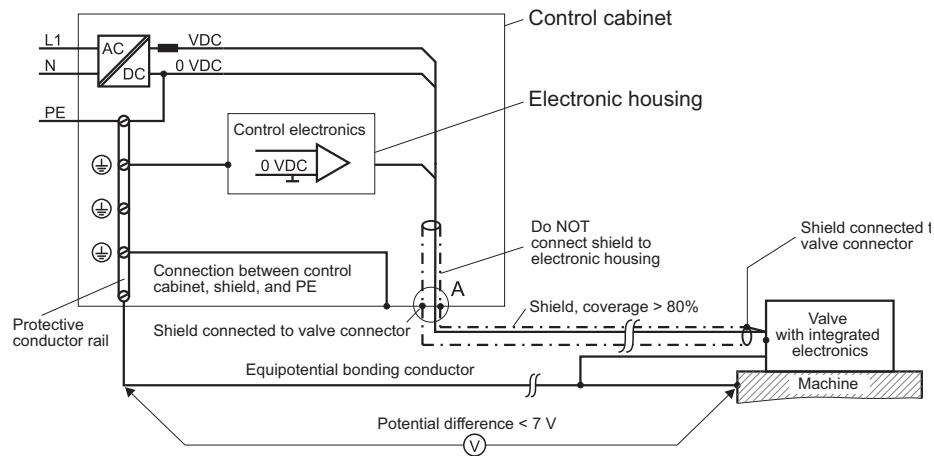

Fig. 32: Equipotential bonding and protective grounding of machines (see also EN 60204-1) and electrical shielding of our valves with integrated electronics
- a Fig. 32, page 97
(detail A from Fig. 32)
a Fig. 32, page 97